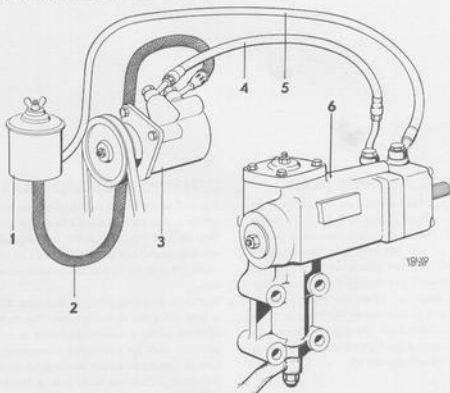
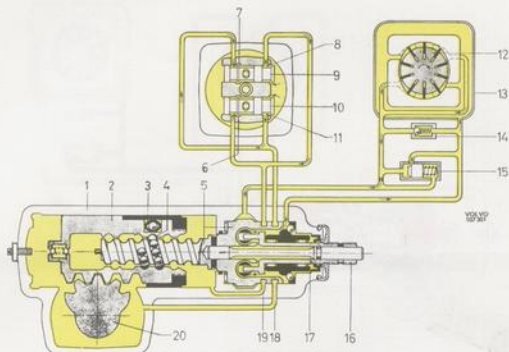

Fig. 6-43. Power steering
Fig. 6-44. Function, neutral position
This vehicle can be fitted with the ZF recirculating ball and nut type power steering. The main components of the power steering gear are the steering gear, power pump and oil reservoir with filter. These are connected to the various oil lines, see Fig. 6-43. The number of steering wheel turns from lock to lock is 3.7.
The power steering gear is of the ball nut type. In addition to the mechanical section, the power cylinder and control valves are built into the steering housing. The lower part of the steering housing (1, Fig. 6-44) is in the form of a cylinder in which the piston (2) is fitted. On the one side the piston is in the form of a rack gear which meshes with the tooth segment of the sector shaft (20).
The construction of the steering gear differs with regard to a left-hand steered and a right-hand steered vehicle in the matter of the location of the sector shaft and the steering cam thread. Fig. 6-43 shows the steering gear for left-hand steering while Figs. 6-44—6-46 show that for right-hand steering. The following description of the function applies to both.
Concerning references to numbers, see Fig. 6-44
The location of the steering valves as well as that of the oil flow are shown schematically in Figs. 6-44, 6-45 and 6-46. In order to illustrate more clearly how the valves are connected to the part of the housing where the power piston operates, a cross-section has been made through the steering valves in addition to the longitudinal section. Moreover, extra channels have been drawn to link up both sections.
Oil is conveyed under pressure from the pump into an annular chamber round the valve housing (the large circle in the cross-section). In the neutral position (Fig. 6-44) the valves (9 and 10) are so adjusted that oil can pass the intake ports (8 and 11) and flow on to the annular grooves (18 and 19) in the valve housing. From here the oil is led partly to both sides of the piston (2) through the channels (18 and 19), and partly — as long as the valves are in the neutral position — to both the return grooves (6 and 7) at the control valves. From the return grooves oil flows through the return channel back to the reservoir.